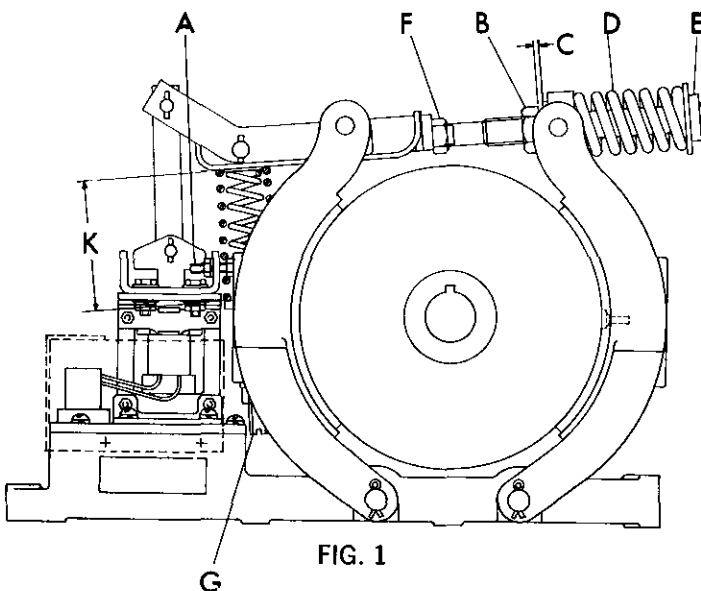

FIG. 1
**1. Mounting** — Loosen jam nut "F" (See Fig. 1). Clamp the brake on the wheel by compressing torque spring "D" and tightening the adjusting nut "E". Insert shims between the mounting stand and the base of the brake until the brake is setting solid on base. Note — These brakes should be mounted in a horizontal position with the base below the solenoid and shoes. Side or vertical mounting can result in accelerated wear of the solenoid.
**2. Adjustment** — a. Compress the torque spring "D" until the desired torque is obtained. The approximate compressed length of this spring, to obtain rated torque, is given in the table below and on a small plate mounted on the pivot block, item 19. It is an approximate dimension and further adjustment may be necessary.